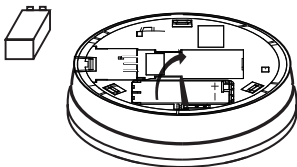

Figure 5
- 6.2.5 If you want to replace battery, please press the battery reminder tab down into the battery compartment while inserting the battery (See Fig. 5).
- 6.3.1 Homeguard model HG2000 will not function without a properly installed battery. They are equipped with a battery lockout feature which prevents the battery door from closing if a battery is not installed correctly (See Figure 5).